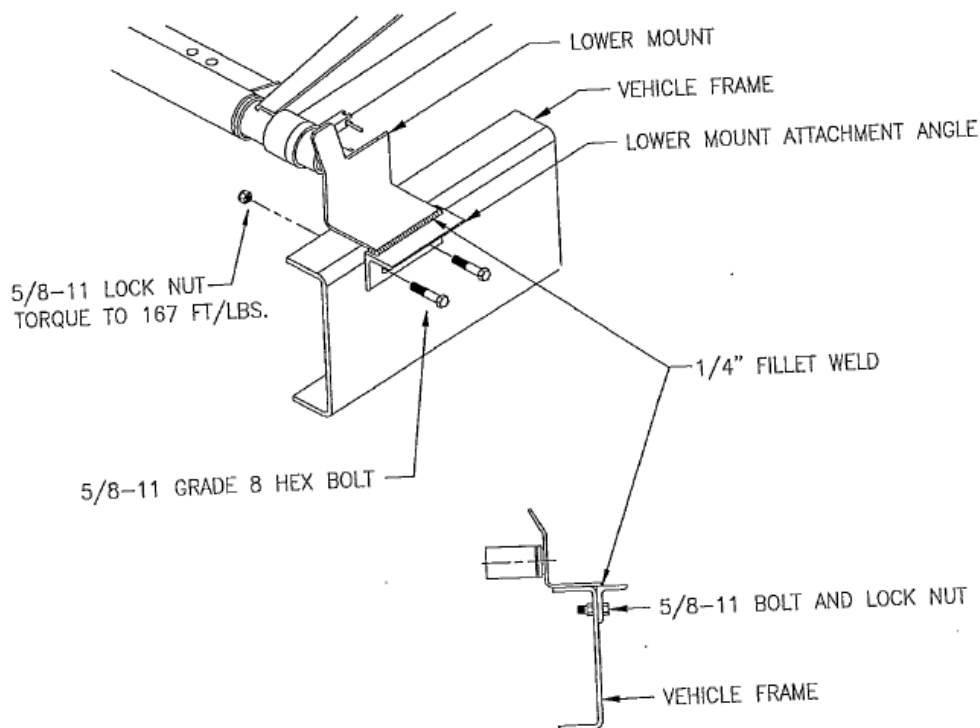

Figure 9
F. MOUNT HOIST TO CHASSIS FRAME (See Figure 9)
1. Clamp LOWER MOUNT ATTACHMENT ANGLES to outside of each frame member, with top of mounting angle leg even with frame (see figure 9). Drill three 11/16" holes through frame member using mounting angle as a template. Secure angles with 5/8-11 X 1 3/4" lg. hex bolts and lock nuts.